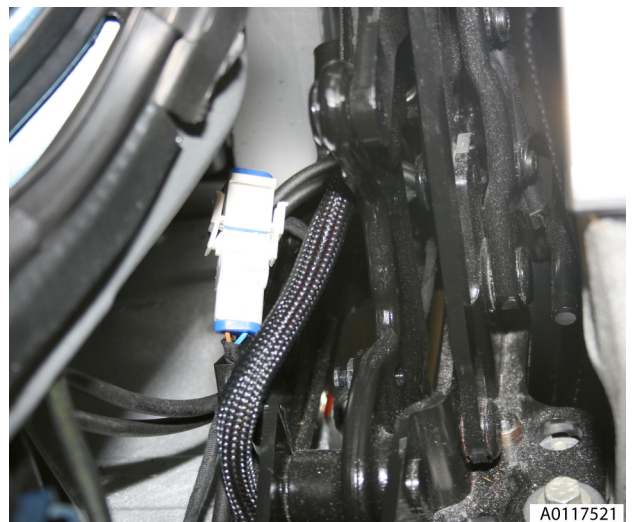

Fig. 5
14. Feed pipes through to tonneau area by carefully guiding through roof mechanism and release string (see Fig. 5).